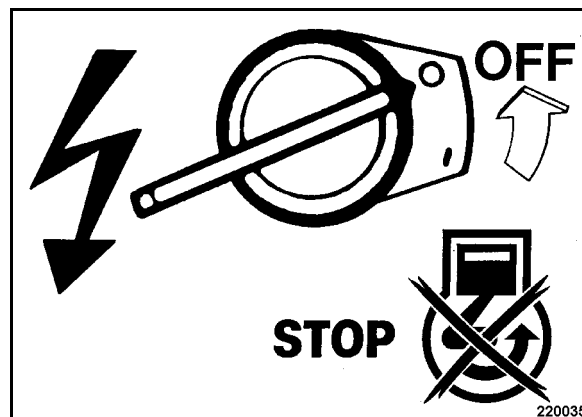

Fig. 27
- Turn the ignition switch to position OFF (Fig. 27), the engine will stop.